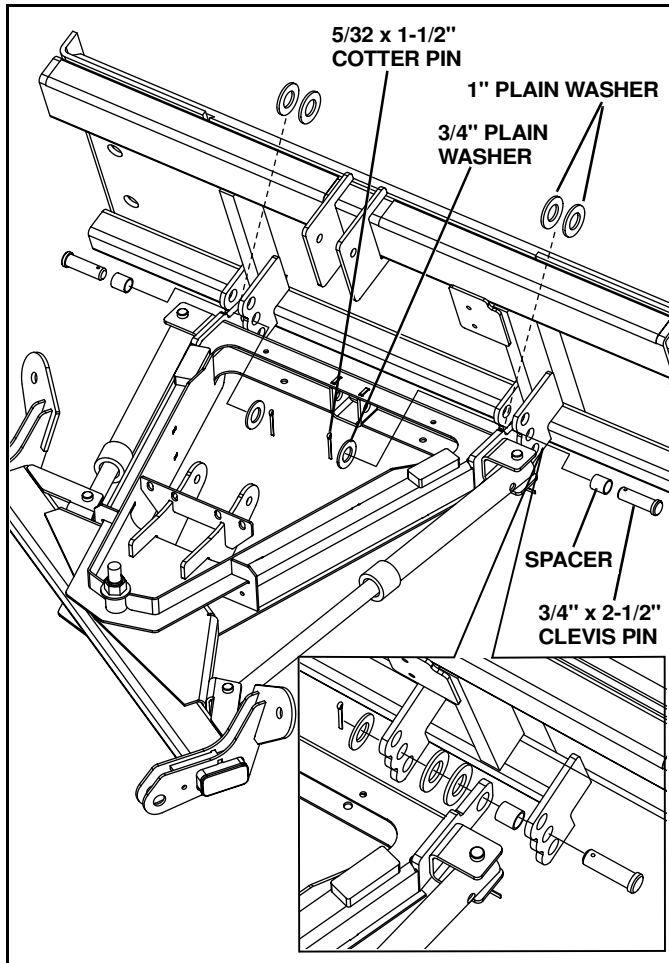

Figure 2-7
1. Install swing frame into A-frame center hole with 3/4" x 6-1/2" bolt, plain washer, and 3/4" locknut. (See Figure 2-7)
(See Figure 2-7)
2. Slide the A-frame into the middle position of the universal adaptor bracket. (See Figure 2-7)
3. Insert 3/4 x 2-1/2" clevis pin into the a-frame lugs. On one side add the additional 1" plain washers to prevent the a-frame from sliding side to side. Push the pin all the way through the adaptor plate and insert cotter 3/4" plain washer and 5/32 x 1-1/2" cotter pins to retain pins in position. (See Figure 2-7)